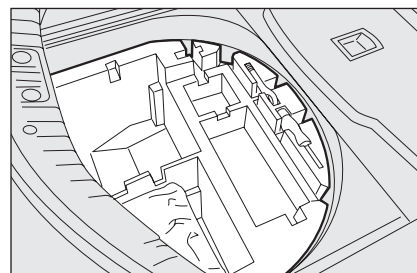

fig. 4
- ☐ for versions fitted with “quick tyre repair kit Fix&Go” take the tool container **fig. 4** out of the boot;